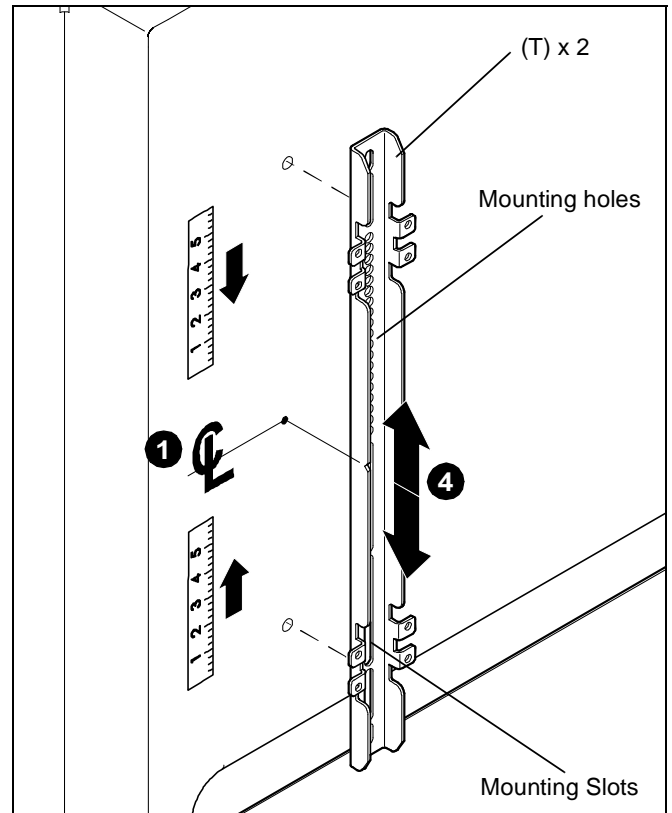
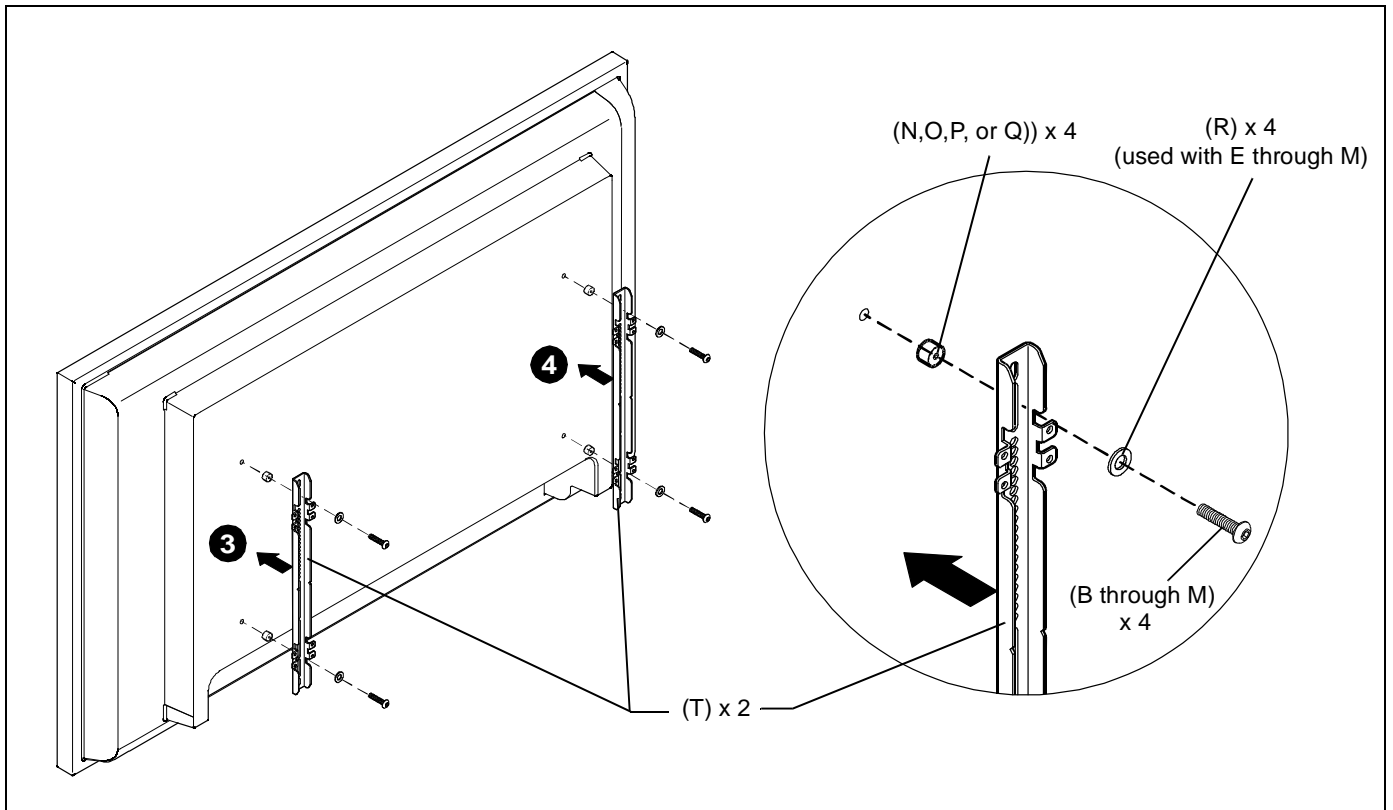

Figure 1
Figure 2
1. Determine and mark the vertical center position between the Left side Upper and Lower mounting holes in display. (See Figure 1)
2. Determine and mark the vertical center position between the Right side Upper and Lower mounting holes in display. (See Figure 1)
3. Orient vertical mounting bracket (T) so that mounting holes are on top and mounting slots are on bottom. (See Figure 1)
4. Align mounting holes in vertical mounting bracket (T) with upper and lower mounting holes in display.
5. Adjust vertical mounting bracket (T) position until mark made in step 1 aligns with center mark in vertical mounting bracket (T).
6. Secure Left side vertical mounting bracket (T) to display using two flat washer (R), and Phillips pan head screws (B through M). (See Figure 2)
NOTE: If the display has a recessed mounting surface, protrusions or a power box, a spacer and longer mounting hardware must be placed between the display and vertical mounting bracket (T). (See Figure 2)
10. Orient upper horizontal mounting bracket (S) so that flanges are facing towards display and resting in recessed area of left and right vertical mounting brackets (T). (See Figure 1)